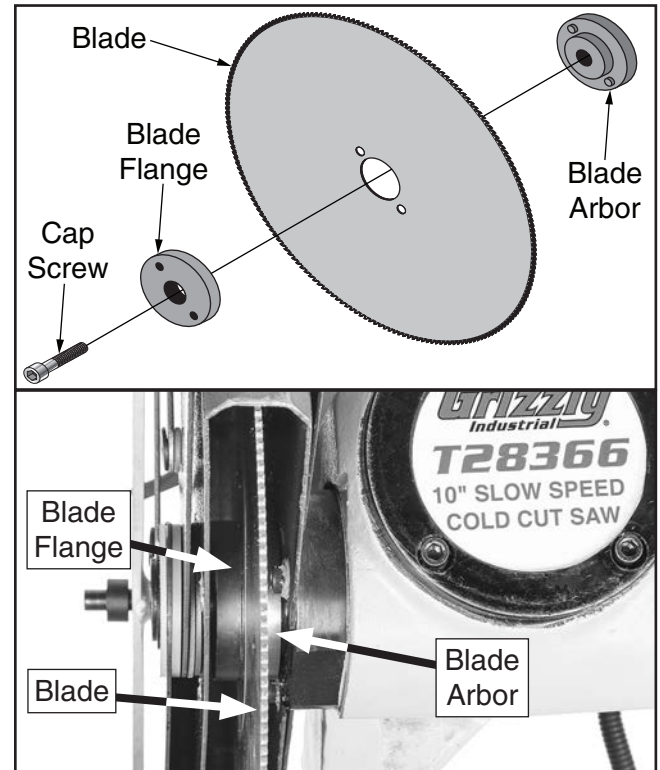

Figure 34. Blade order of installation.
7. Slide blade flange onto blade arbor and rotate until arbor pins (see **Figure 34**) align with holes in flange, then push flange against blade.
8. Tighten arbor cap screw (see **Figure 34**). It has left-hand threads and tightens when turned counterclockwise.